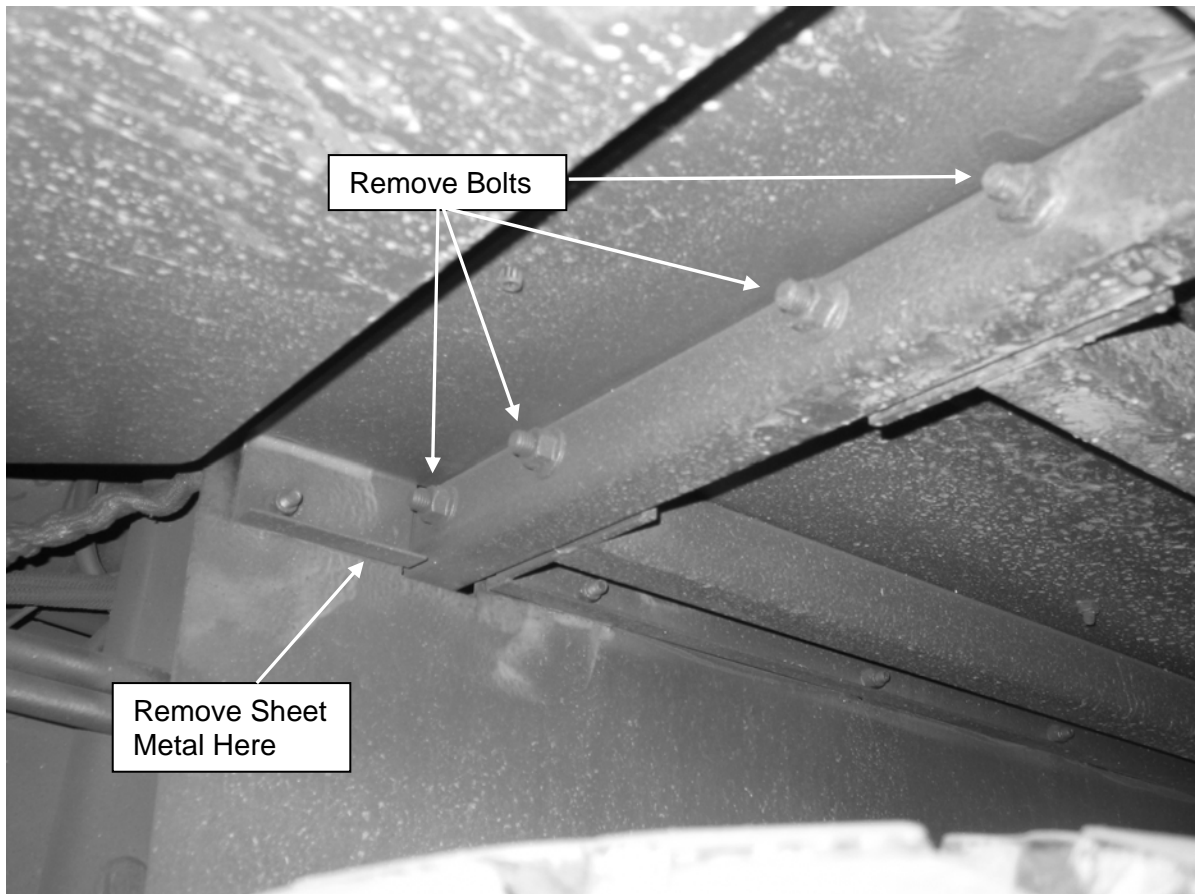
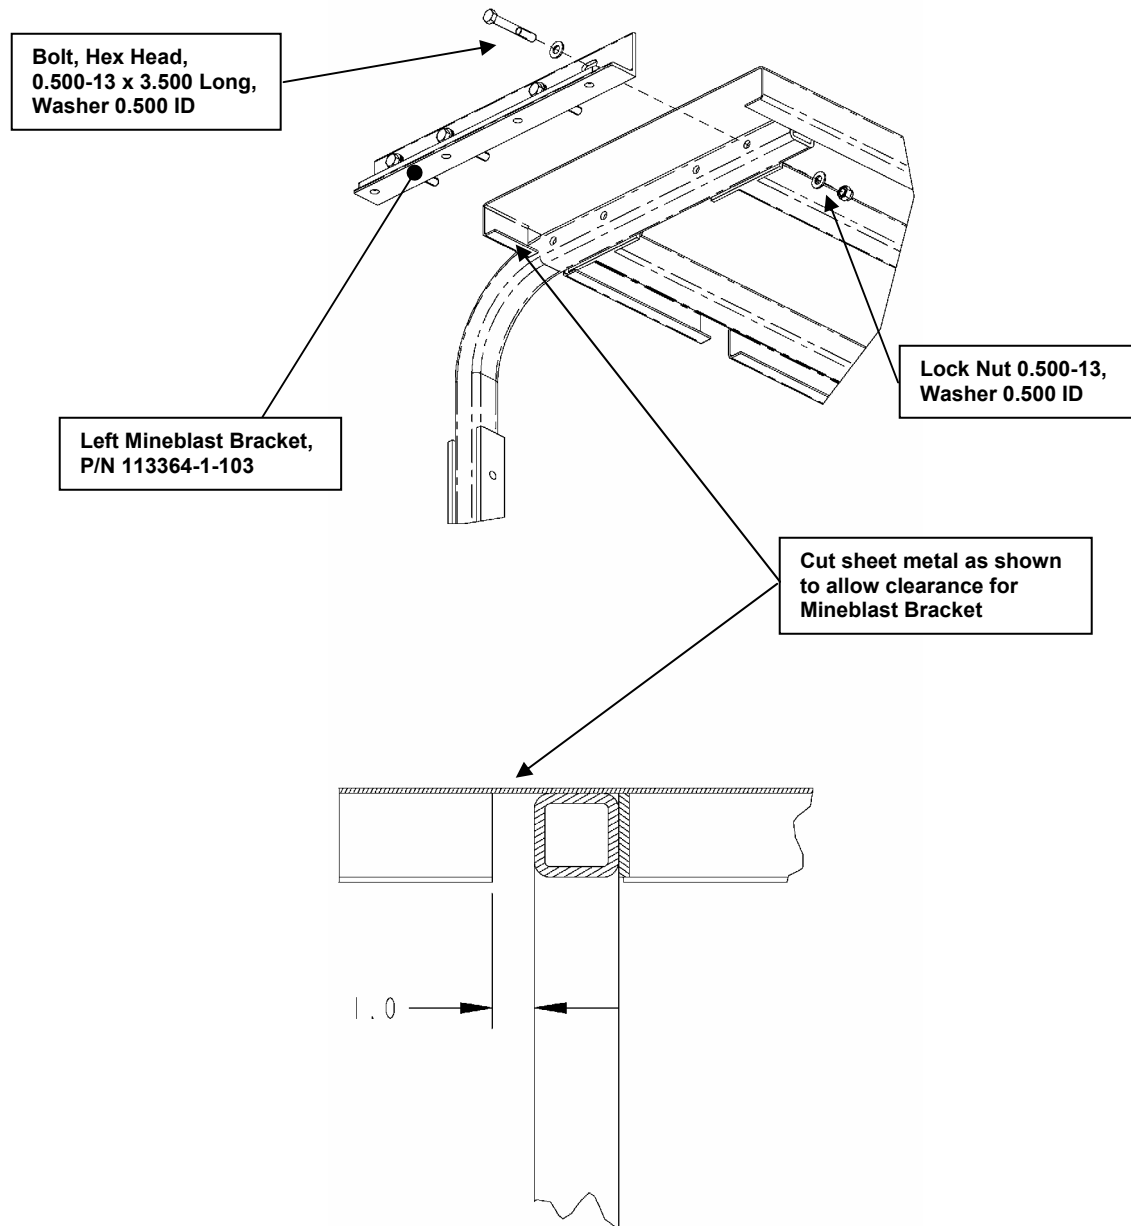

Figure 60. Left Mineblast Bracket location.
Figure 61. Underbody Attachment Bracket, Left Side.
- f) Remove the four bolts shown in Figure 60.
- g) Remove a section of sheet metal from underneath the front wheel well, as shown in Figure 60 and Figure 61. This is needed to provide clearance for the Left Mineblast Bracket (P/N 113364-1-103).
- h) Install the Left Mineblast Bracket to the support rail using the hardware shown in Figure 61.